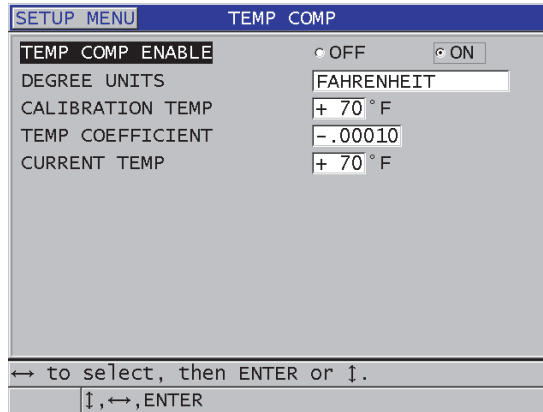

Figure 10-18 The TEMP COMP screen
3. In the **TEMP COMP** screen (see Figure 10-18 on page 175):